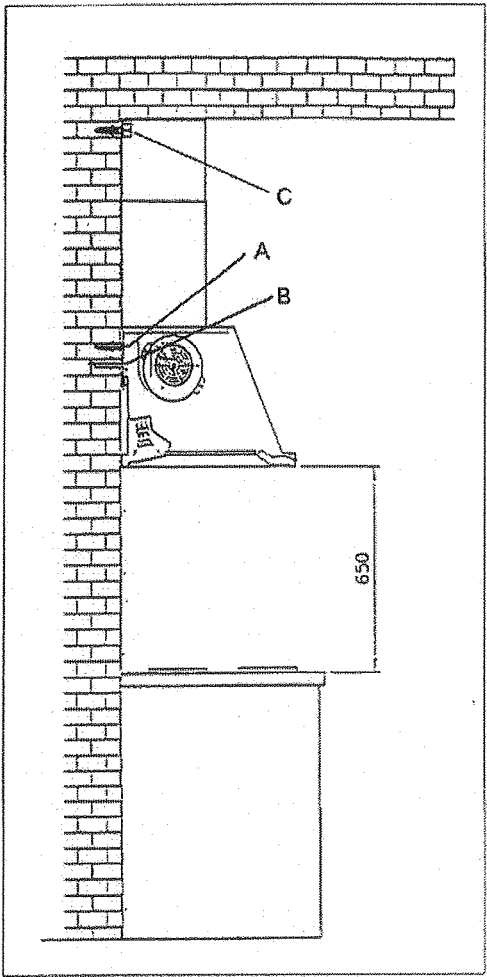
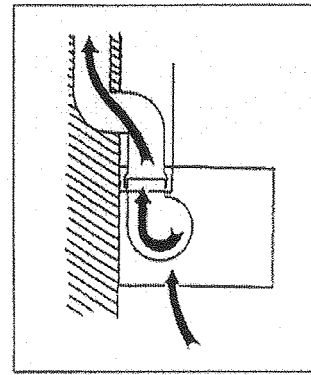

FIG. 1
FIG. 2
The equipment, once installed (Fig. 1) should be at a distance of not less than 65 cm. from the cooking top. It must not be mounted above cookers fitted with top radiant plate. The contaminated air must be discharged in a manner complying with current regulations.
- Blocking dowels (Fig. 1-A)
- Suspending and levelling dowels (Fig. 1-B)
- Brackets and screws for fixing the chimney to the wall (Fig. 1-C)
The hood is supplied with a multi speed motor. The hood should be run at low speed under normal conditions and at higher speeds only when there is a heavy build-up of fumes or odours. Ideally, the hood should be switched on when starting cooking and kept on until all odours have been eliminated. The controls are provided with buttons for switching on the light TL, for switching on the motor and selecting the operating speed T1-T2-T3-T4 and for switching on the infrared light (version indicated in Fig. 1) T5, or for switching on the two infrared lights (version indicated in Fig. 2) T5 for the right light and T6 for the left light.